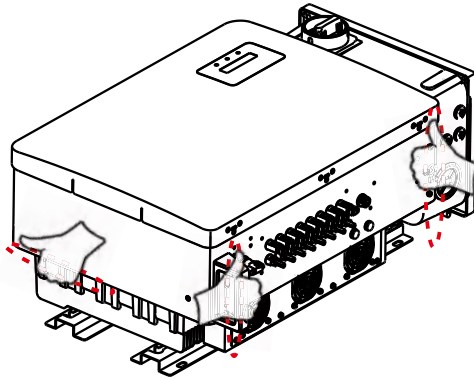

Figure 3.5 Inverter lifting method
2. Two people are required to remove the inverter from the shipping box. Use the handles integrated into the heat sink to remove the inverter from the carton (see Figure 3.5).